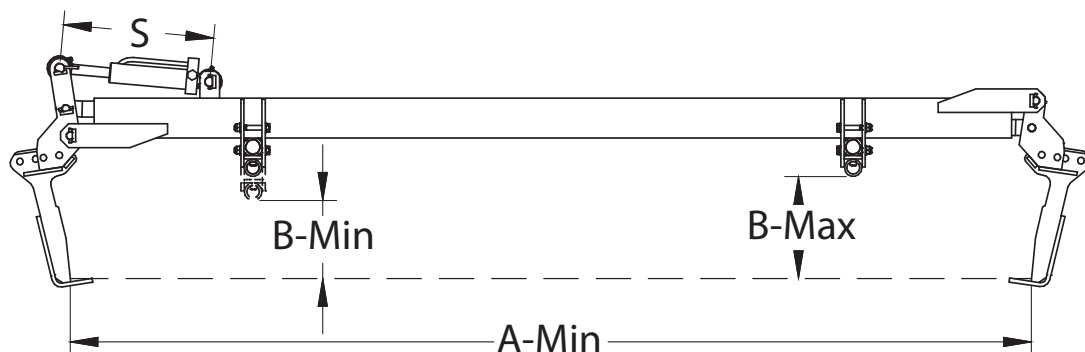

Fig 8. Measurement, sleeper length adjustment.
4. Slide the fixed grapple arm to desired position (Fig. 8).